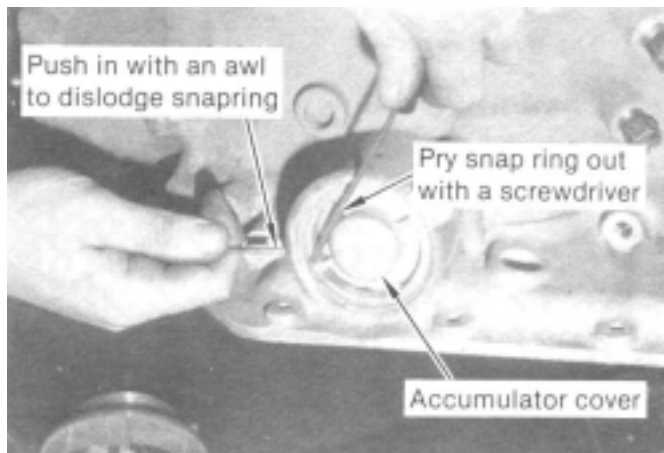

FIGURE 10
STEP 16. Heavy Duty only: Use an awl or small screwdriver to dislodge the accumulator snap ring located on the right side of the transmission case. (See Fig. 10) Pry the snap ring out with a screwdriver. There is some spring loading